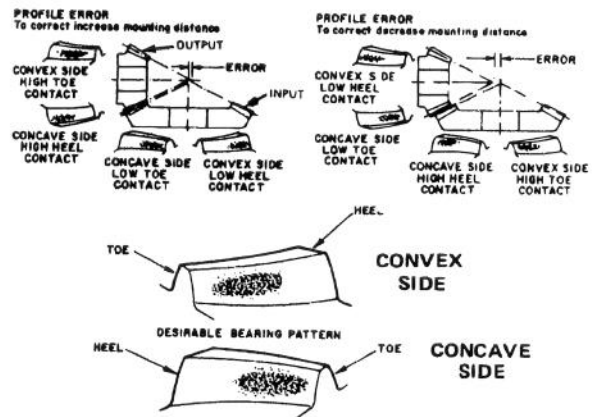

Figure 43
7. Inspect the wear pattern on the gear teeth, compare them to the patterns indicated in figure 43. Add or remove shims from output housing to correct any misalignment.